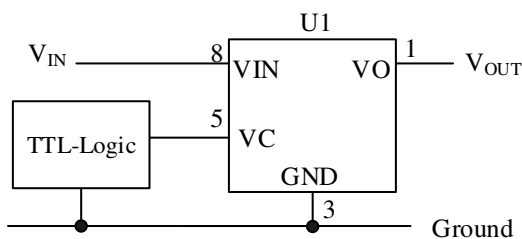
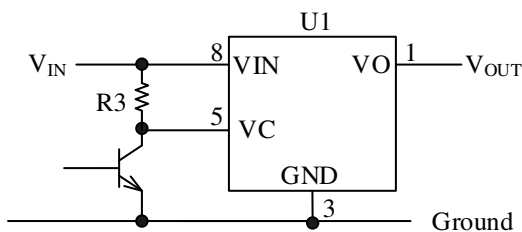

Figure 13-2. Output On/Off Function
Figure 13-3. Output On/Off Function
As shown in Figure 13-2 and Figure 13-3, the on/off signal is generated by a general-purpose logic IC or a transistor, and inputs to the VC pin. When the general-purpose logic IC is used, pull-up resistor, R3, is unnecessary.
In the case of Figure 13-3, the R3 value should satisfy Equation (4) that the maximum sink current of the VC pin is taken into account. The minimum value of R3 should be set taking into account the loss of the transistor.